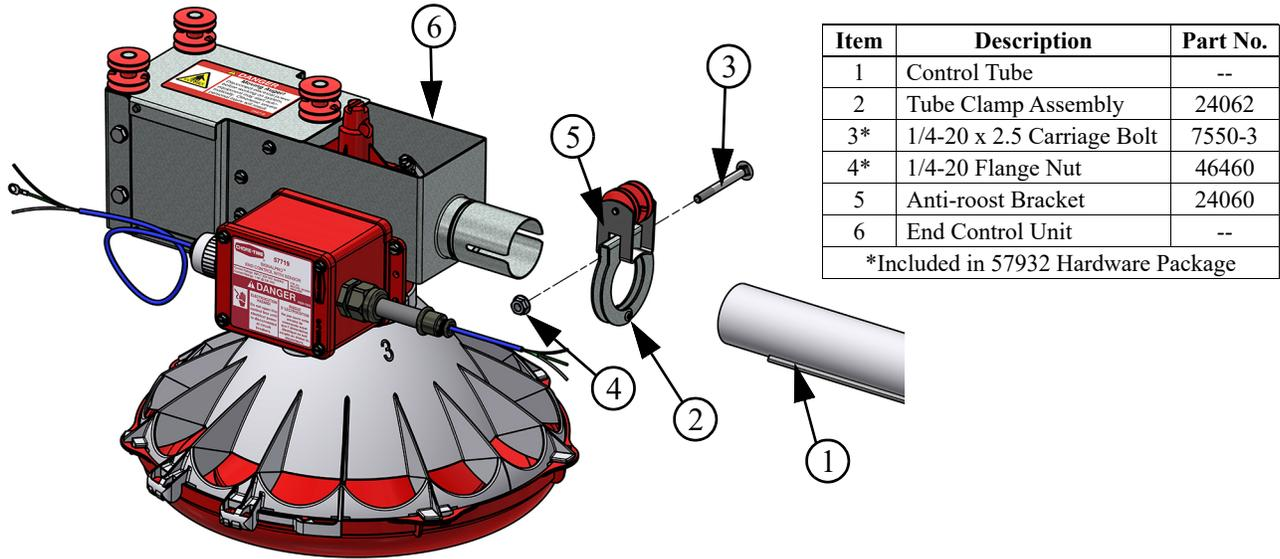

Figure 24. Connecting End Control Unit to the Feed Line Tube
1. Assemble the End Control Unit to the Feeder Line Control Tube using a clamp/anti-roost bracket. See **Figure 24. DO NOT INSTALL THE POWER UNIT AT THIS TIME.**